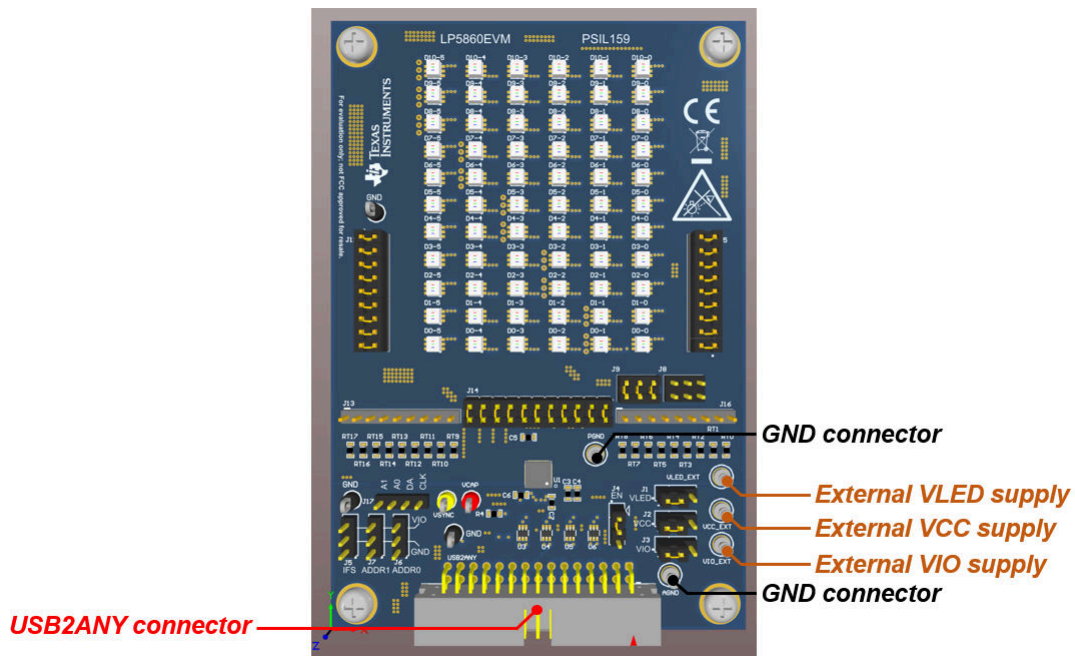

Figure 2-3. Key External Connectors
2. Connect a 5-V external power supply to the VLED_EXT terminal (see Figure 2-3) and connect the switching jumper (J1) to another side